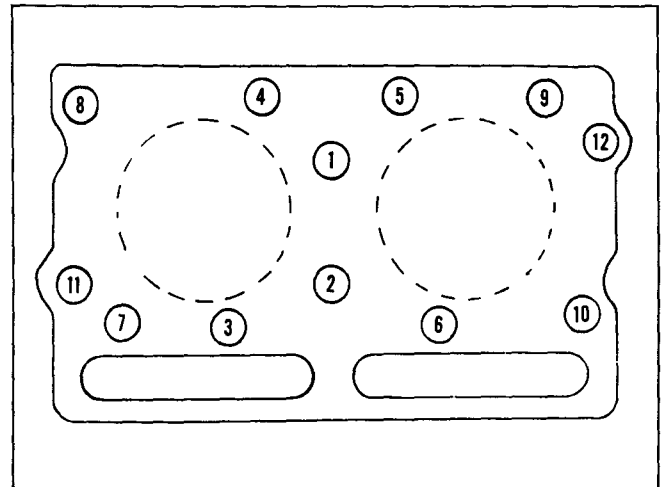

Fig. 14-21, (N11427). Cylinder head torquing sequence
6. Install washers and capscrews. Torque capscrews to 25 ft-lbs [34 N•m] in sequence shown in Fig. 14-21. Continue torquing in increments of 80 to 100 ft-lbs [108 to 136 N•m] to final torque of 280 to 300 ft-lbs [380 to 407 N•m].